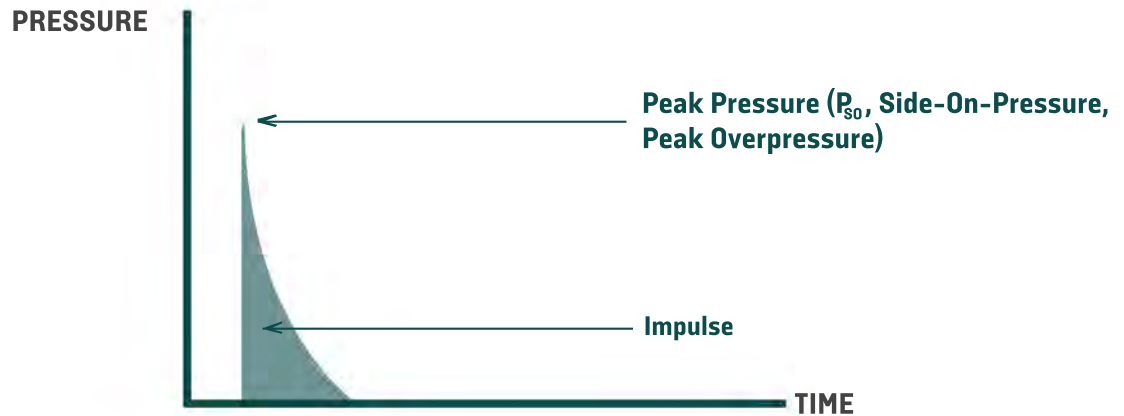

Figure 1
**PEAK PRESSURE** - the peak value of the blast/explosion. This is also known as the **side-on-pressure** or **peak overpressure**. It is represented by the highest point of the curve in Figure 1.
**IMPULSE** - relates to the total force per unit area that is applied on a module in a blast. It can be considered even more important than the peak pressure when it comes to designing the blast rated module. It is represented by the shaded area under the curve in Figure 1.